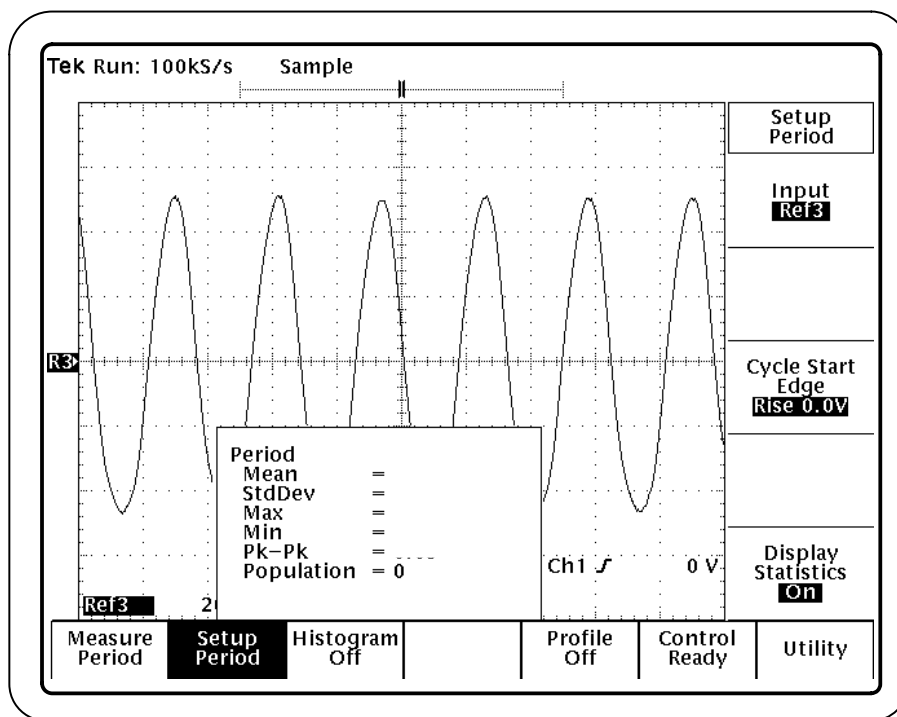

Figure 6: Setup Period menu (basic setup menu)
1. Press Setup Period (main) → Input (side) and select Ref3. See Figure 6.